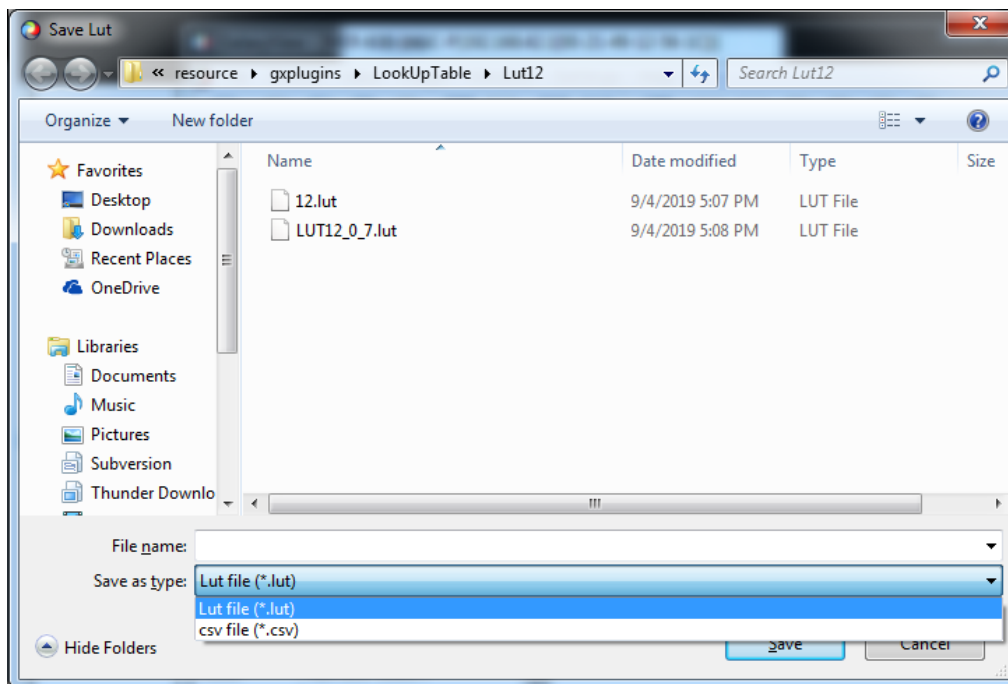

Figure 9-11 Save to file
1. When selecting " Save to File ", the current Lut data can be saved to the file. The saved file contains two formats: Lut and csv, as shown in Figure 9-11: